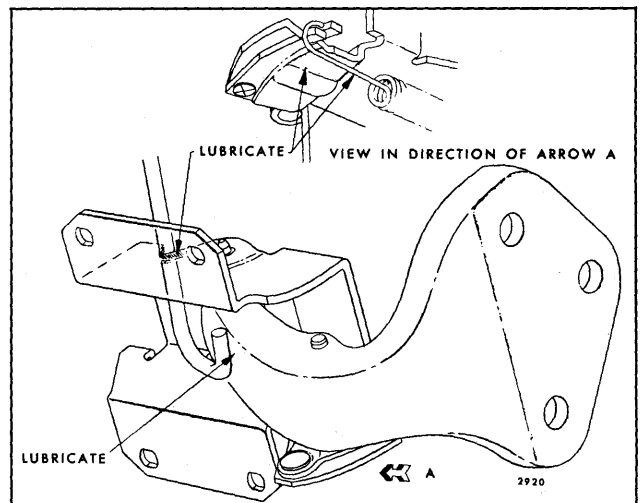

Fig. 2-4—Front Door Hinge Assembly - "E" Body Styles
3. Lubricate the torque rod on the "E" series lower hinge assembly with molybdenum disulphide (Fiske Bros. 475-10DS or equivalent) at the points indicated (Fig. 2-4).